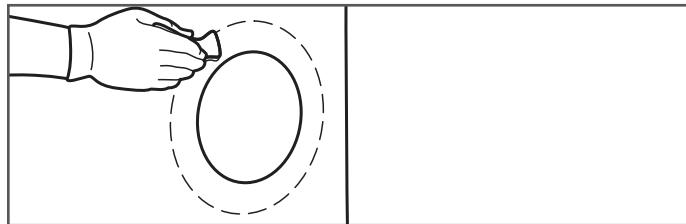

Figure 23-4
2. Sand 1-1/2" around the throughput hole on interior and exterior of sump (Figure 23-4).